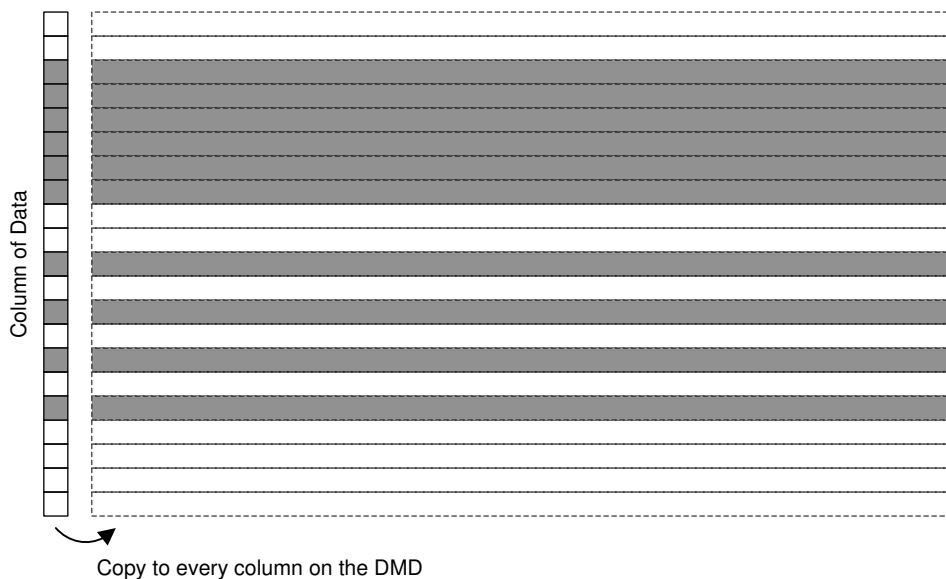
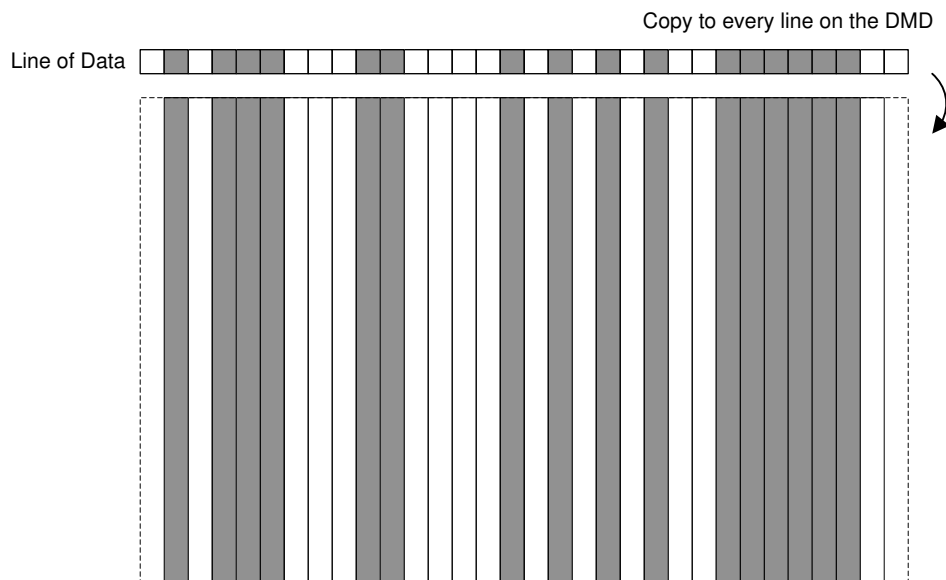

图 7-12. Column Replication
图 7-13. Row Replication
- Internal pattern mode only supports 1D patterns i.e the pattern data is the same across the entire row or column of the DMD (图 7-12, 图 7-13).